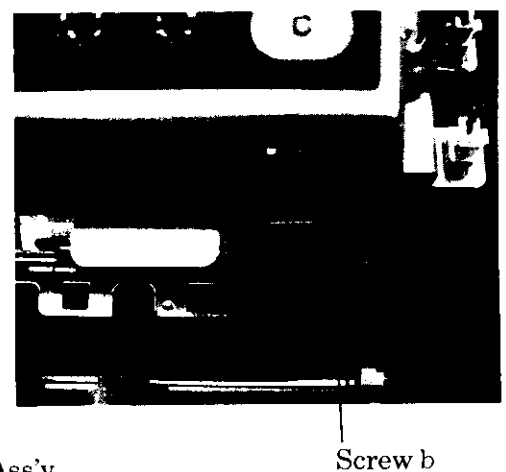

Fig. 3 0
- 1) Adjust gap between pulling rollers and feed rollers as shown in Fig. 3, and fix it with screw b.
- 2) If the left and right gaps are not equal, adjust gaps according to ③ (Difference up to 0.01 mm can be considered equal.)
③ Adjusting left and right gaps of gate. (Fig. 3)